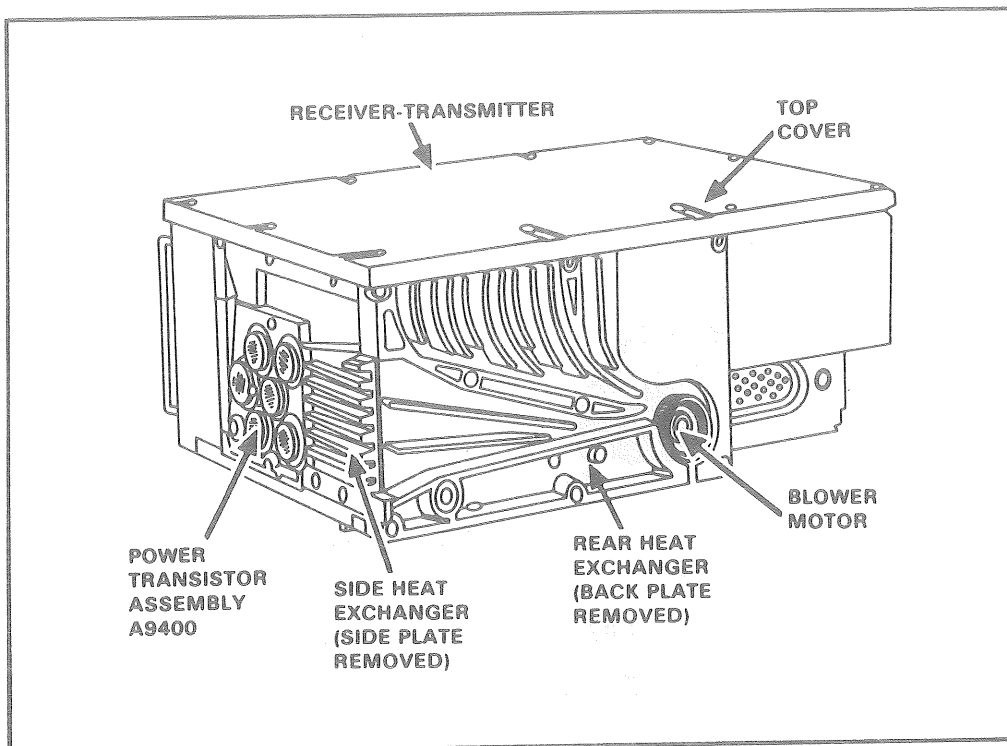

Figure 3. Heat exchanger and power transistor assembly of receiver-transmitter.
- h. Clean the heat exchanger (fig 3). This operation is optional.